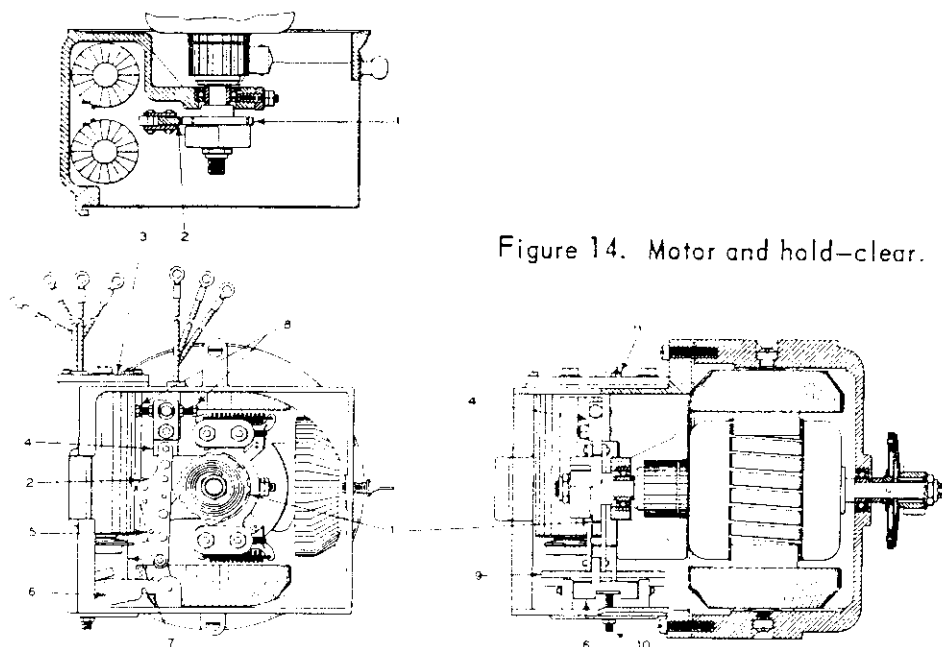

Figure 14. Motor and hold-clear.
Check that the gears are clean and sufficiently lubricated. Wipe the hold-clear armature (reference 9, Figure 14) and pole faces with a
With hold-clear armature 9 picked up, Figure 14, the tip of dog 2 should clear the bottom or root of the ratchet step on the rim of hold-
Both pick-up (low-resistance) winding P, Figure 3, and hold (high-resistance) winding H, are used to pick up hold-clear armature 9, Figure 14. The hold-clear armature should pick up when 7.5 to 8.5 volts is applied to both the pickup and holding windings. The pickup winding opens near the clear position, leaving only the holding winding energized. The dropaway voltage for any length arm should not be less than 2.5 volts.
6. If the reading obtained in step 4 was too high, turn the elastic stop nut (reference 12, Figure 14) counterclockwise; if the reading was too low, turn the nut clockwise.